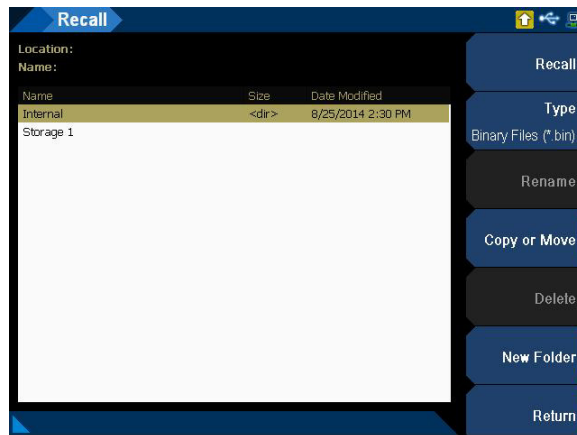

Figure 1-7 Recall menu page
- 6 Select the firmware file to be updated, and press the **Recall** softkey as shown in **Figure 1-7**. Refer to "**Recall**" on page 97 for more information on the Recall menu page.